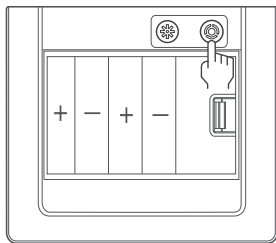

Figure 4
2. As shown in Figure 4, press "⊗" on the battery compartment and there will be a voice prompt "Safe mode is on", indicating successful activation. Press the button again can turn "Safe mode" off.